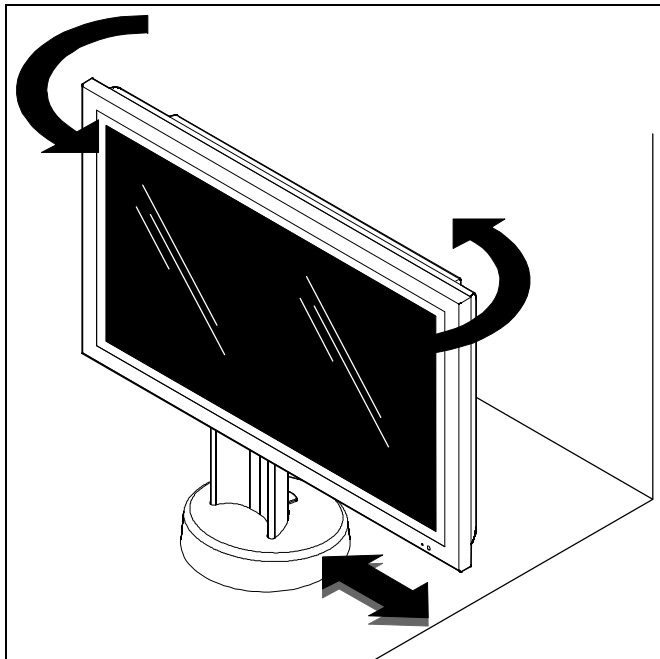

Figure 1
1. Base rotation is factory-set at 90° but may be changed to 180° or 270° to allow necessary rotation. (See Figure 1)